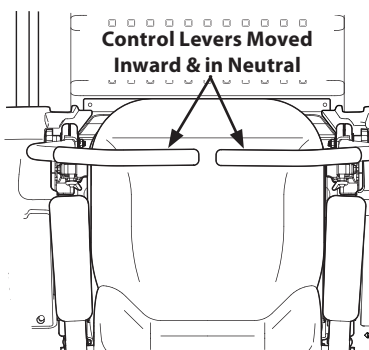

Figure 3-4
3. Move the RH and LH drive control levers inward in the neutral position. Refer to Figure 3-4.